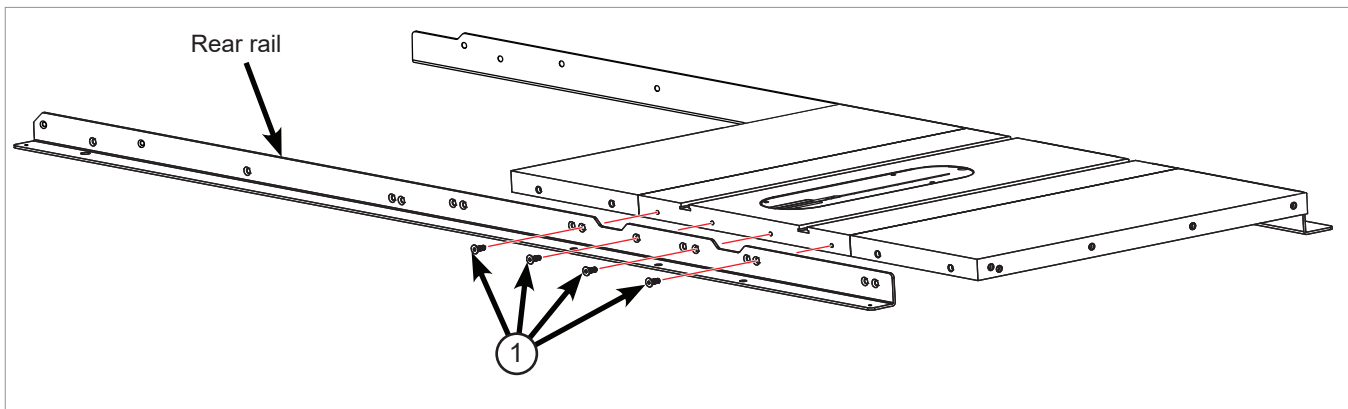

Fig. 6
4. Begin mounting the rear rail (the shorter of the two rails) to the rear edge of your saw by centering the notches in the rail with the two miter slots in the table and aligning the left-most hole between the notches with the corresponding hole in the rear edge of the table (See Fig. 6). There are three holes in the rail between the notches, one solitary hole and two holes paired together, and the left-most hole is the solitary hole. Not all the holes are used to mount the rail to your saw; different holes are used for different saws. Aligning the left-most hole aligns all the other holes used in mounting the rail to your saw. When the holes are aligned, mount the rail to the saw by threading an M8 x 16 countersunk socket head bolt (1) into each of the four open holes in the rear edge of the table and tighten the bolts using a 5 mm hex key.